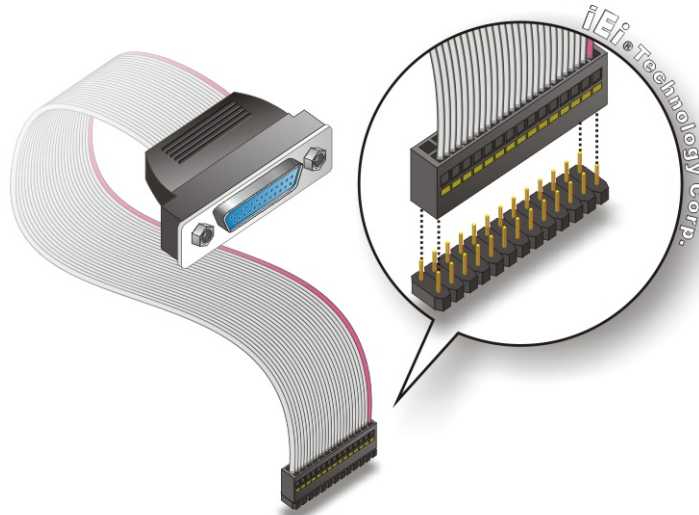

Figure 5-15: LPT Cable Connection
Step 2: Align the connectors. Correctly align pin 1 on the cable connector with pin 1 on the PIC0e-945GSE LPT box-header connector. See Figure 5-15.
Step 3: Insert the cable connectors Once the cable connector is properly aligned with the 26-pin box-header connector on the PIC0e-945GSE, connect the cable connector to the on-board connector. See **Figure 5-15**.